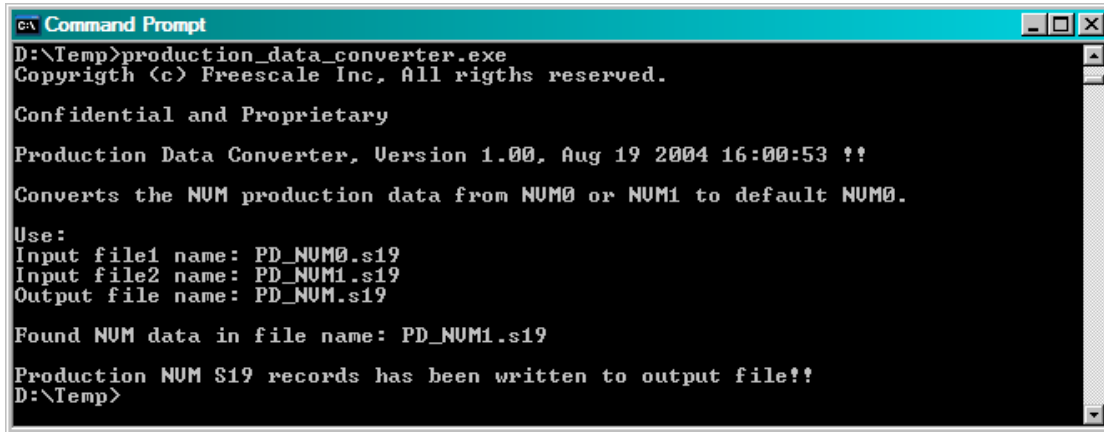

Figure 3-16. Command Window
9. Copy the `Production_Data_Converter.exe` tool to the folder containing the `PD_NVM0.s19` and `PD_NVM1.s19` files. Execute the `Production_Data_Converter.exe`. This can be done by either clicking on the `Production_Data_Converter.exe` or opening a Command Prompt window and running the executable at the command line. The output is a `PD_NVM.s19` file containing the production data from the active NVM sector. The command line version is shown in Figure 3-16.